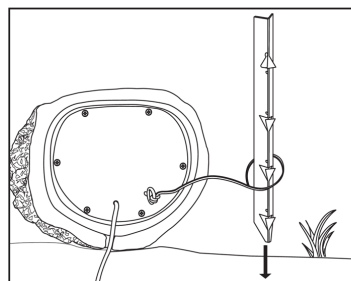

FIGURE 11
5. Feed the Security Stake through the loops at the end of the security cable and ensure that they are inserted into the cable holder provided at the top of the stake, as shown in **Figure 11**.